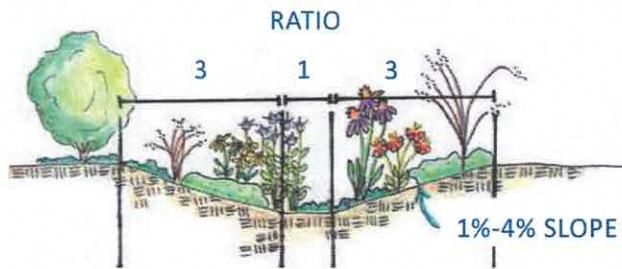

Figure 1. Profile of vegetated swale.
**STEP 2 – Dig.** Dig out the shape of the swale. The deepest part of the swale should be about three feet deep. The width of the swale will depend on how much space you have on your site. A swale can be any size or length, but most are shaped like a trapezoid with the sides being three times wider than the width of the base. The slope of the sides should be between 1% and 4% (Figure 1).